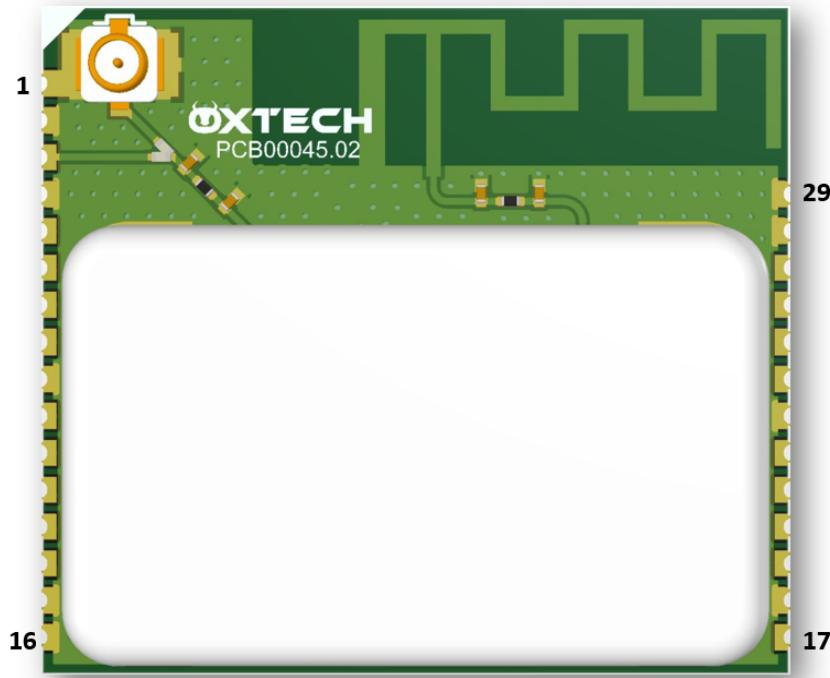

Figure 4: Pin assignment (Top View)
- Figure 4: Pin assignment (Top View)